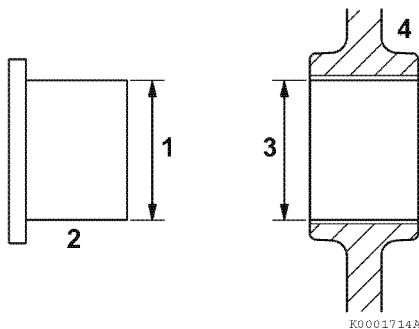

Figure 6-127
1. Measure the outside diameter (1, **Figure 6-127**) of the idler gear shaft (2, **Figure 6-127**). See *Idler Gear Shaft and Bushing on page 6-10 for specifications*.
2. Measure the inside diameter (3, **Figure 6-127**) of the idler gear bushing (4, **Figure 6-127**). See *Idler Gear Shaft and Bushing on page 6-10 for specifications*.